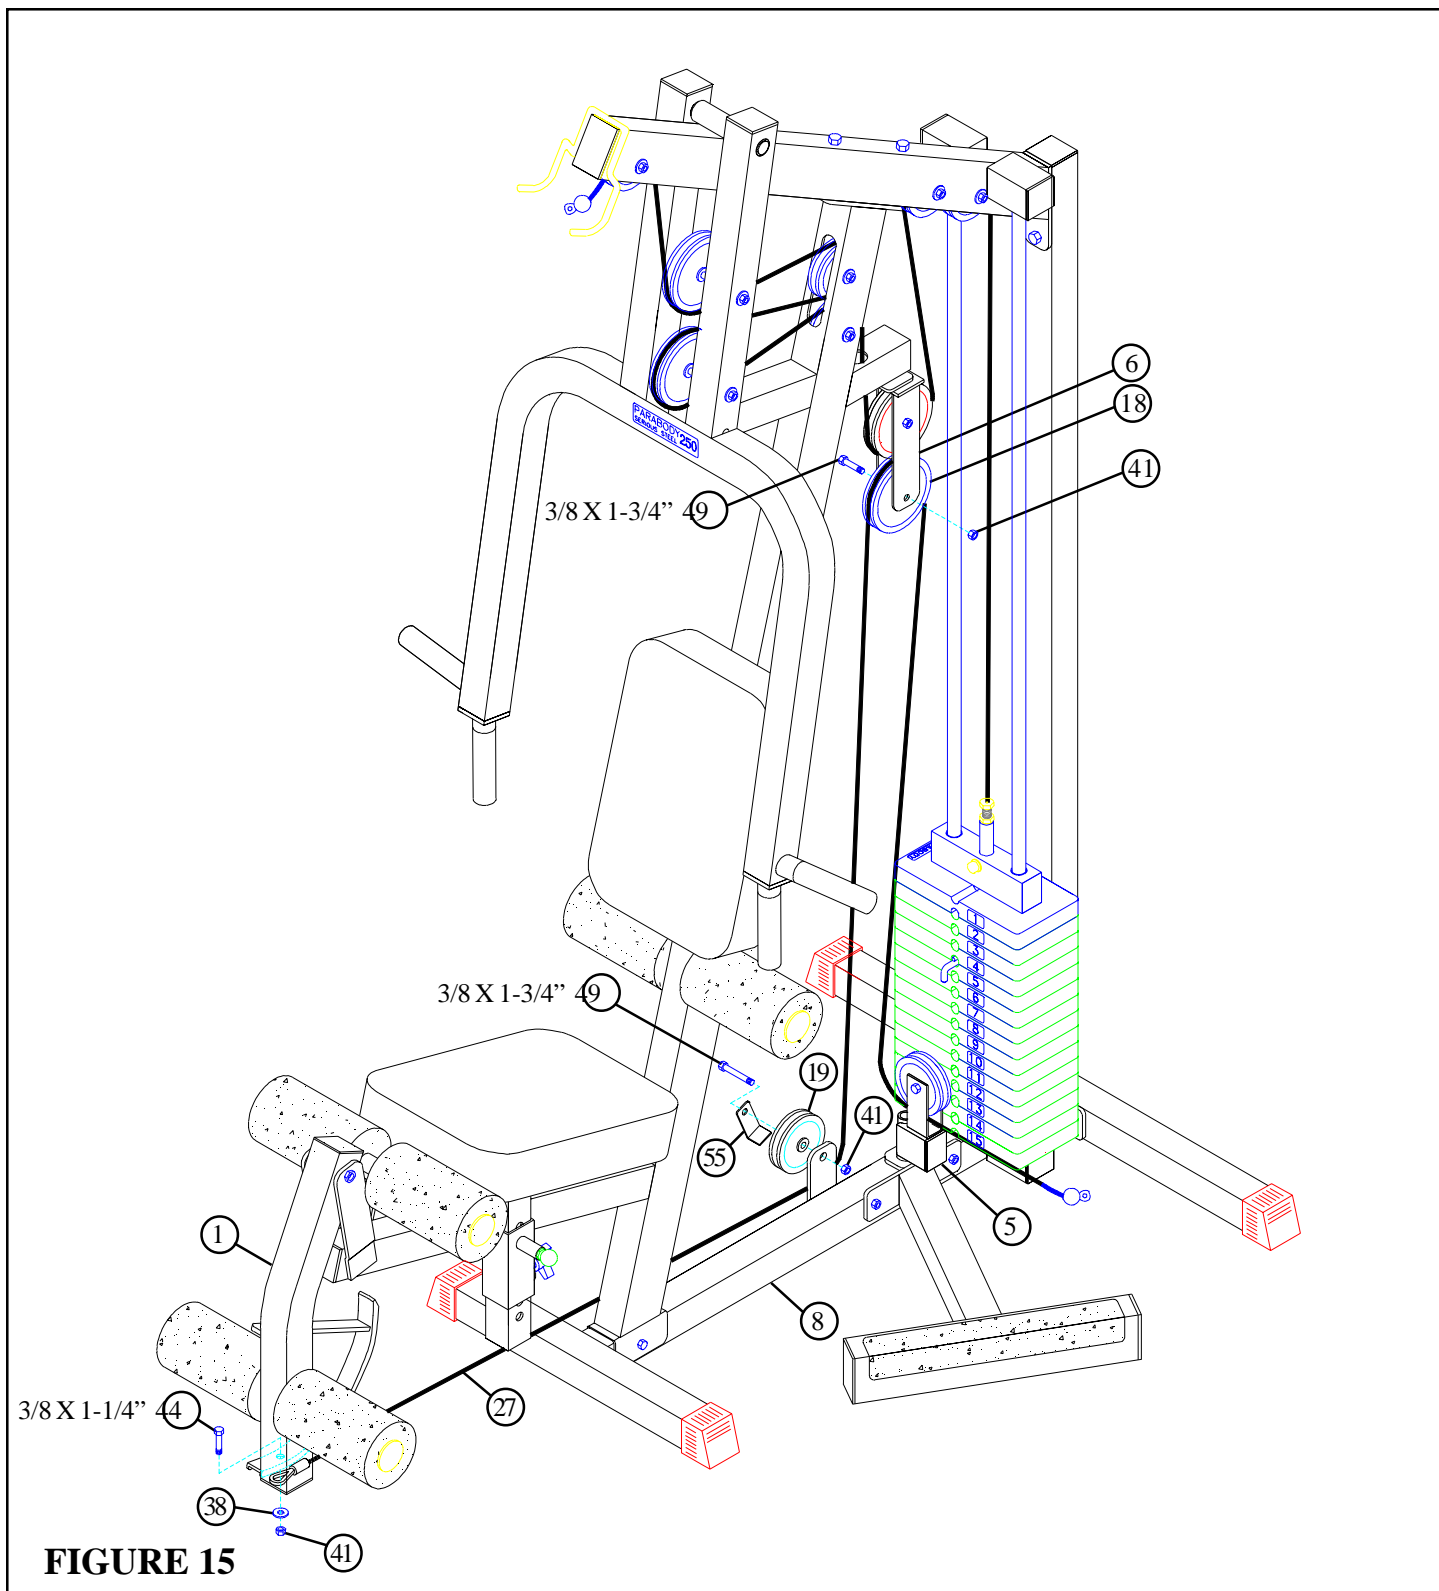

**FIGURE 14**
- Securely assemble the WEIGHT STACK CABLE (26) and two 3-1/2" PULLEYS (19) to the TOP BOOM (7) using two 3/8 X 2-3/4" BOLTS (48), four 3/8" FLANGE SPACERS (36), and two 3/8" LOCK NUTS (41) as shown in FIGURE 14. (**Note: Loop the CABLE over the PULLEYS prior to inserting it into TOP BOOM.**)
- Hang the FLOATING PULLEY BRACKET (6) over the WEIGHT STACK CABLE (26) as shown in FIGURE 14.
- Screw the threaded end of the WEIGHT STACK CABLE (26) into the end of the WEIGHT STACK SHAFT (21) until the FLOATING PULLEY BRACKET (6) firmly contacts the FRONT UPRIGHT (2) and the CABLE (26) slightly pulls on the HEAD PLATE (20). Tighten the jam nut securely. See FIGURE 14.